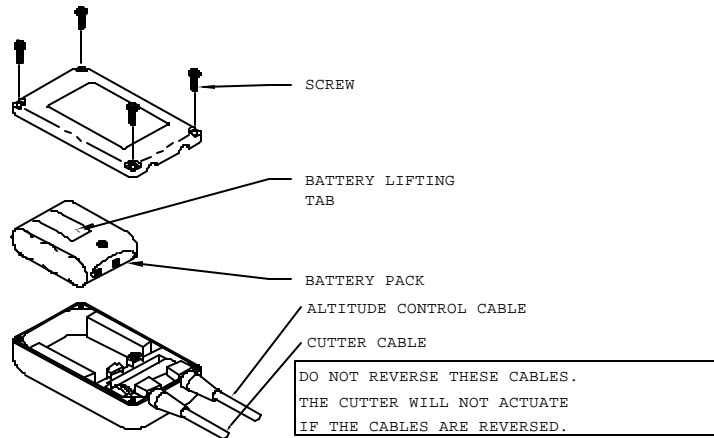

FIGURE 8
7.1 BATTERY REPLACEMENT (Fig. 8)
7.2 CUTTER REPLACEMENT (Fig. 8, 9, and 10)